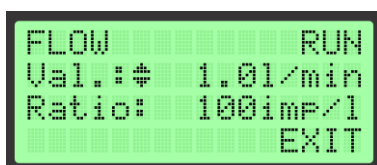
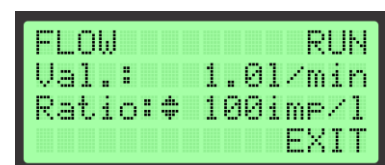

Figure 66 Changing Flow Rate Value
Figure 67 Changing Flow Ratio
The user can navigate through this submenu by using Up (↑) and Down (↓). By pointing to the submenu item and by pressing Enter (E) the following parameter can be selected: Flow Rate value (See Figure 66) or Flow Ratio (See Figure 67).